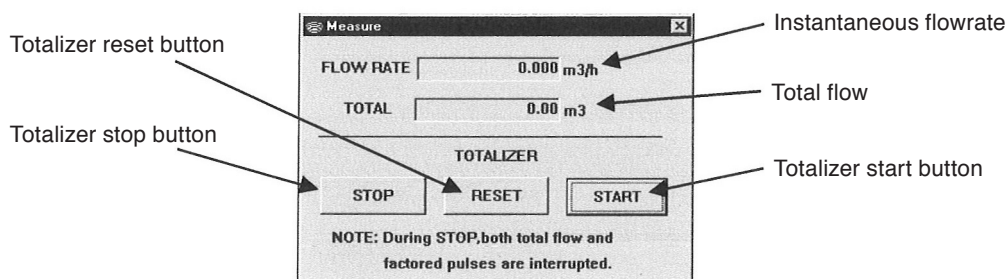

Fig.16
- ② A message box for process variables as shown in Fig. 16 appears.